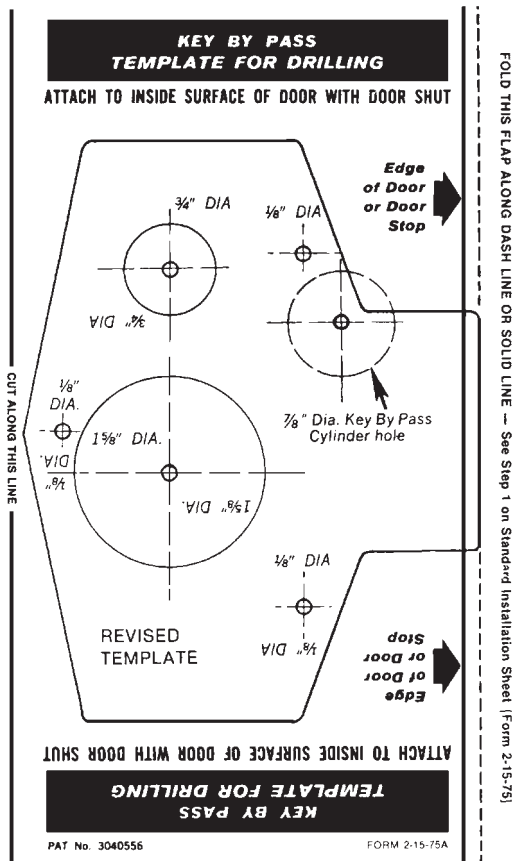

Figure 18.19 Drilling template for the key bypass feature. (Simplex Access Controls Corp.)
- Use the template (Fig. 18.19) for positioning a $\frac{7}{8}$ -inch-diameter hole for the key lock cylinder.